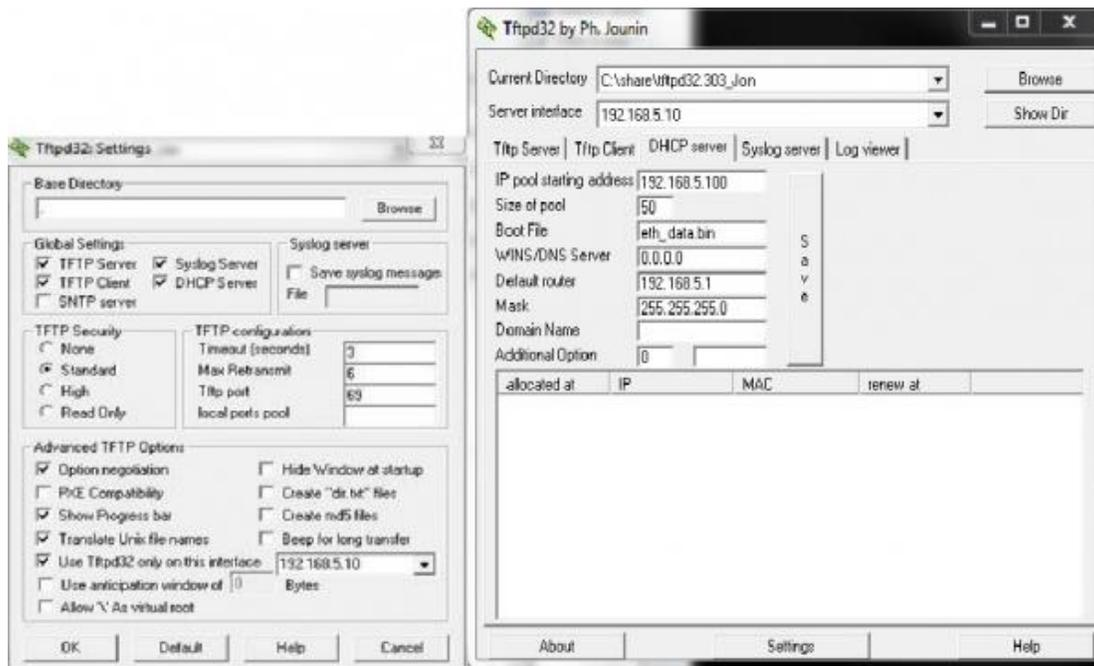

Figure 6. TFTP Transfer Configuration for Ethernet Boot
- Configure the DHCP Server settings in the TFTP32 utility as shown in Figure 6.